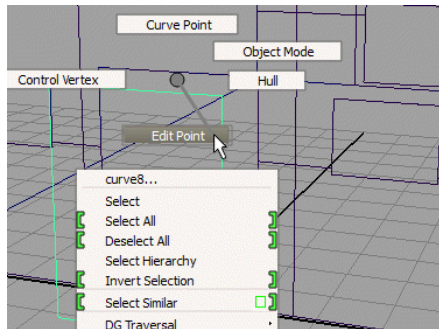

*Figure 3-114 The profile curve created for the frame*
- Select the **1 Linear** radio button corresponding to the **Curve degree** attribute. Next, create the profile curve for the frame, as shown in Figure 3-114. Make sure the curve is closed. Choose **Modify > Center Pivot** from the menubar; the pivot point of the frame is set to its center. Maximize the persp viewport and choose **Scale Tool** from the Tool Box. Next, scale down the profile curve and place it on the lower right corner of the door curve.